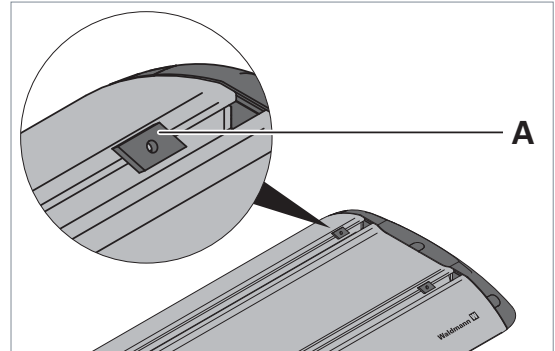

Fig. 11: Inserting the slide nuts.
- ▶ Insert the two enclosed slide nuts **A** into the T-slots of the luminaire, see Fig. 11.